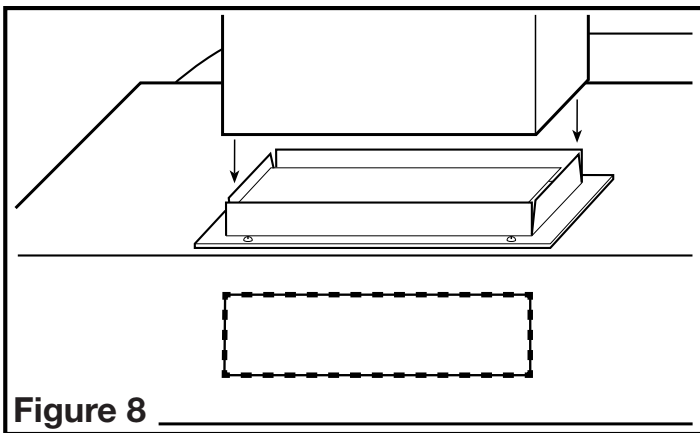

Figure 8
- Connect the ducting to the hood's duct collar and damper. Ensure duct joints and exterior penetrations are sealed with caulk or other similar material to create an air-tight path to minimize building heat loss or gain and to reduce the potential for condensation. Place/wrap insulation around duct and/or fan in order to minimize possible condensation buildup within the duct, as well as building heat loss or gain (**Figure 8**).